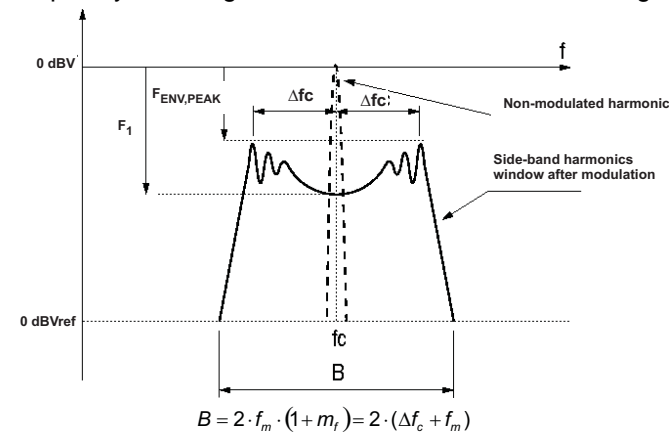
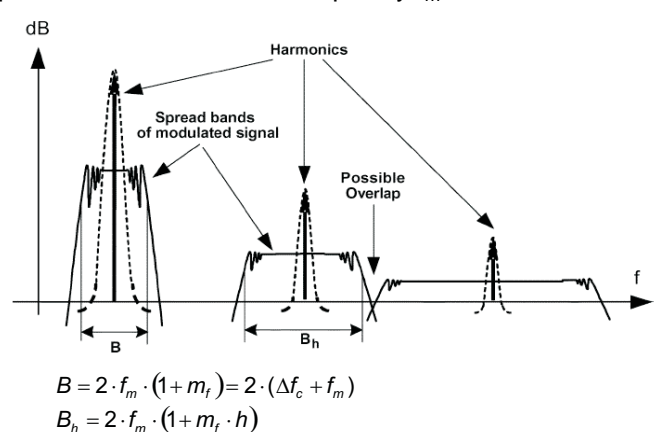

图 15. Spectrum of a Frequency Modulated Sin. Wave with Sinusoidal Variation in Time
图 16. Spread Bands of Harmonics in Modulated Square Signals ⁽¹⁾
(1) Spectrum illustrations and formulae (图 15 and 图 16) copyright IEEE TRANSACTIONS ON ELECTROMAGNETIC COMPATIBILITY, VOL. 47, NO.3, AUGUST 2005.